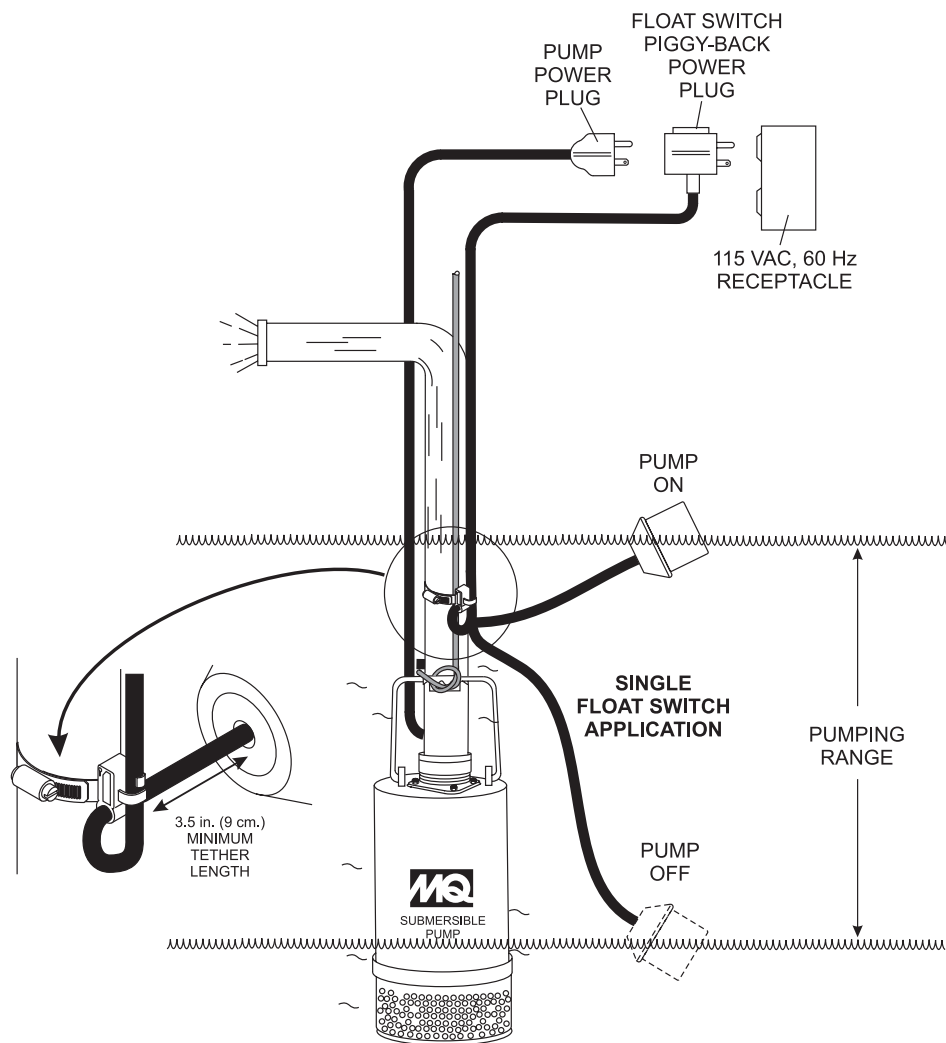

Figure 6. Single Float Switch Application Diagram
Single or **dual** control float switches can be used for the unattended operation of the submersible pump. When using the **piggy-back power configuration** (plug), the ST-2005 series pumps **DO NOT** require the use of a control box. In this configuration (piggy-back), the SW-1 (single float switch) or SW-2 (dual float switch) are required. Figure 6 is an example of a single float switch application.
1. Determine the required **cord tether length** as shown in Figure 6 and Table 3.
2. Place the cord into the clamp as shown in Figure 6.
Figure 6 shows a **single float** switch application. For dual float switch capability use a **Model SW-2** mercury type float switch.
2. Connect the float switch or switches to the AC power receptacle as shown in Figure 6.
1. Remove the float switch input connector housing, then route the float switch wires through the cable gland on the control box. Attach the wires of the float switch to the terminal block as indicated by Table 5 and Figure 6.